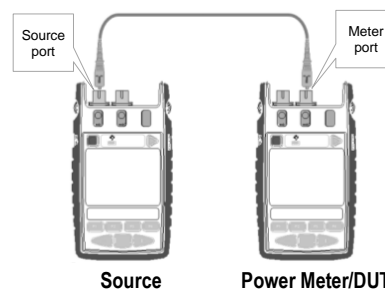

Figure 9. Test set-up for Output Power & Short-term Stability Tests
1. Connect the equipment as shown in Figure 9.
- 1. Connect the equipment as in Figure 9 (previous page).